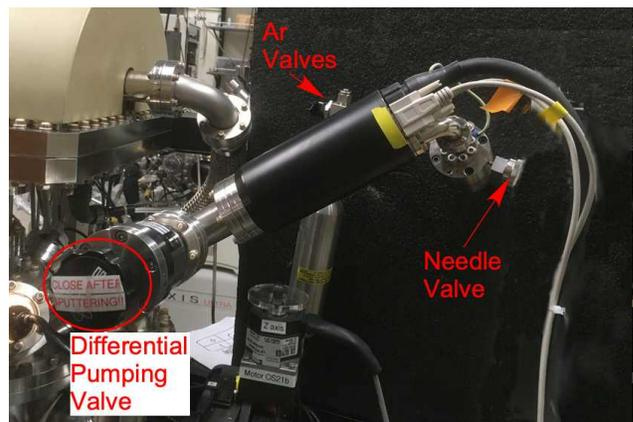

Figure 2. Sputter Gun
7. Open the needle valve, Figure 2 very slowly. Start by turning 1.5 turns ccw. This should not increase the pressure. At this point, **slowly** turn the valve until the pressure in the ion chamber is ~ 7 mTorr (meter on nonsequitur). The pressure only rises a little after the valve is turned. Be very careful, as the valve is highly sensitive. Be ready to turn it back cw if the pressure spikes.